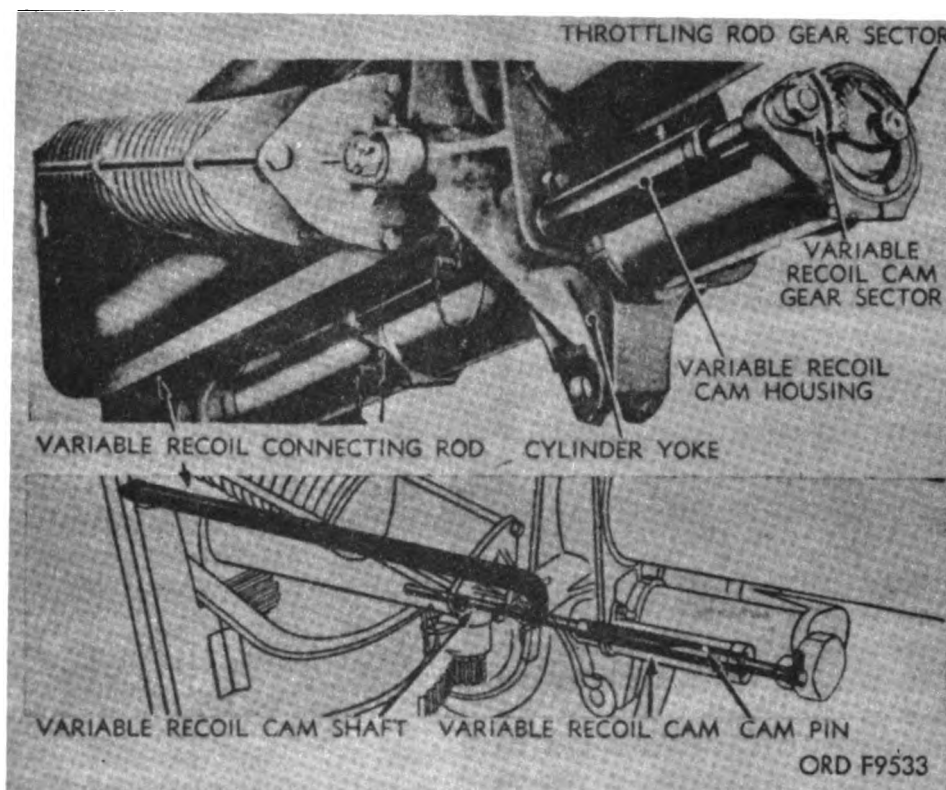

Figure 128. Variable recoil cam—assembly and phantom views.
- (d) The throttling rod is turned by the throttling rod gear sector (fig. 128) at its front end, which meshes with a similar sector actuated by the variable recoil cam ((2)(b) below).
- (2) *Variable recoil cam assembly.*